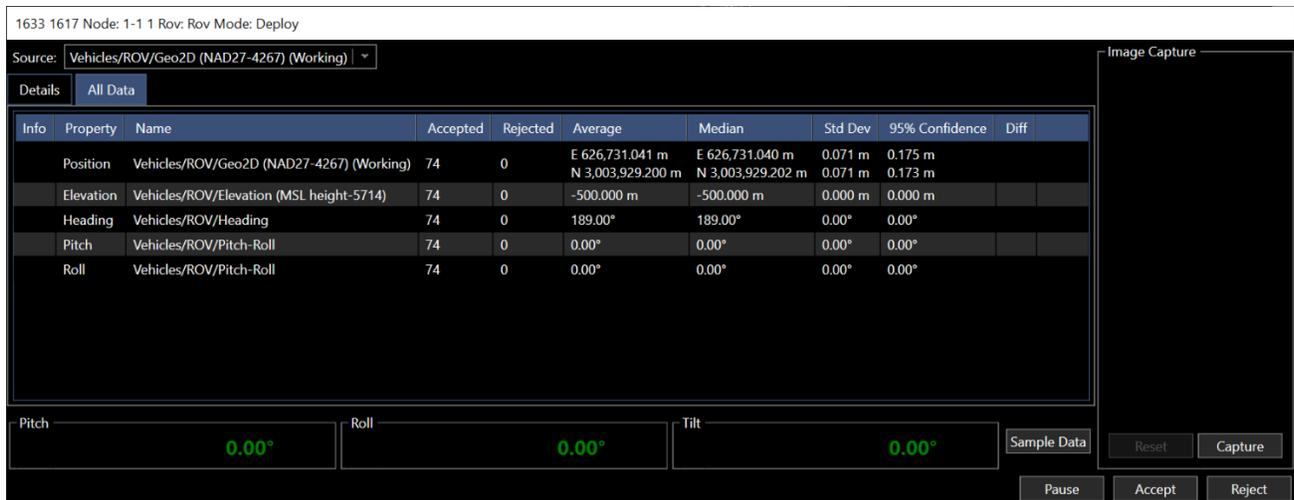

FIGURE 70 ALL DATA TAB - DATA STATISTICS
- All Data Tab:** The all data tab shows a table with statics of each of the data sources, see Figure 70